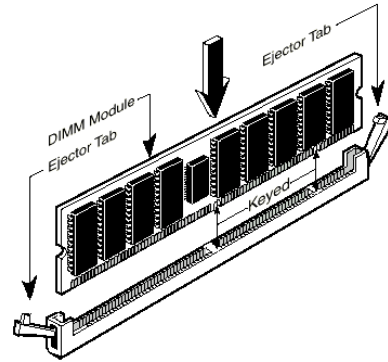

Figure 2-4. Memory module installation
- Step 5.** Insert the DIMM module into the expansion socket as shown in the illustration. Note how the module is keyed to the socket. You can refer to figure 2-4 for the details. *This insures the DIMM module will be plugged into the socket in one way only.* Firmly press the DIMM module into the DIMM socket, making certain the module is completely seated in the DIMM socket.